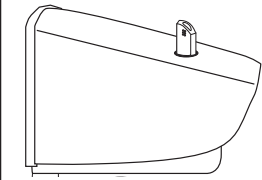

Figure 7
**OSCILLATION:** Push down oscillation knob on motor housing to make fan head move from side to side. (Figures 7 and 8)